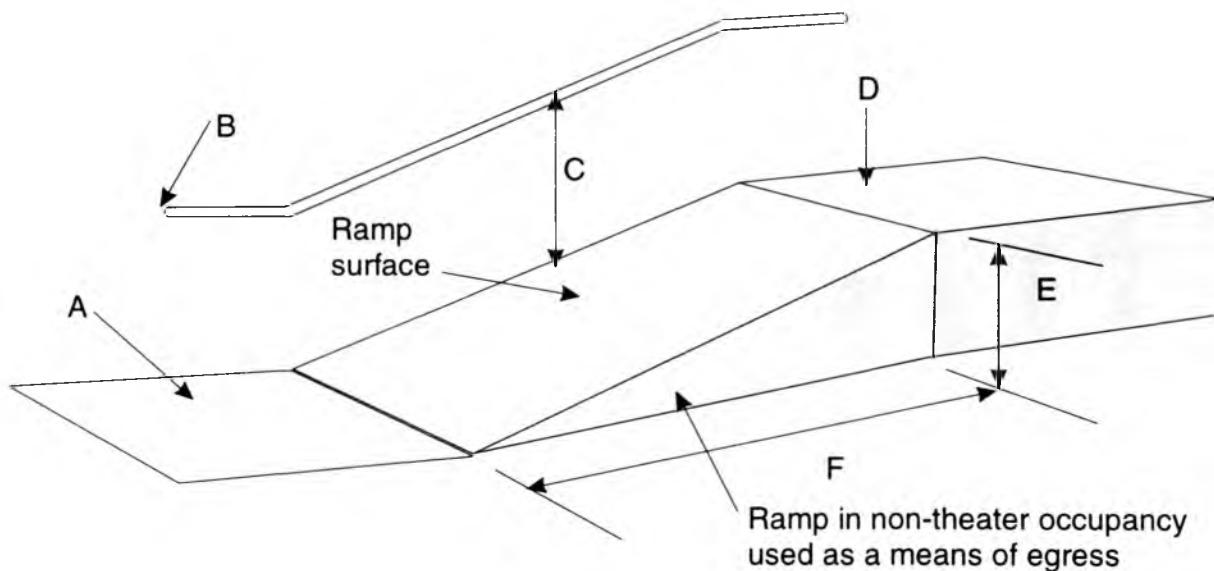

Figure 18-16: Typical ramp used for an accessible means of egress.
26. What is the maximum allowable slope for the ramp shown in Figure 18-16 if rise E is 3 inches?
27. What is the maximum distance that the handrail height (C) may be above the walking surface in Figure 18-16?
28. Referring again to Figure 18-16, under which of the following conditions are handrails not required?